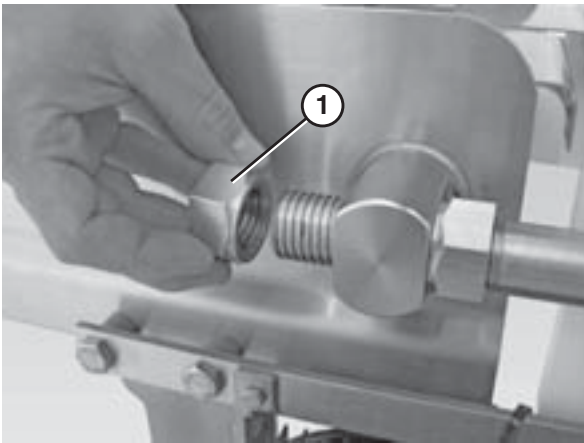

Figure 79
1. Remove the back nuts (Figure 79, item 1) on both discharge nose bar shafts.